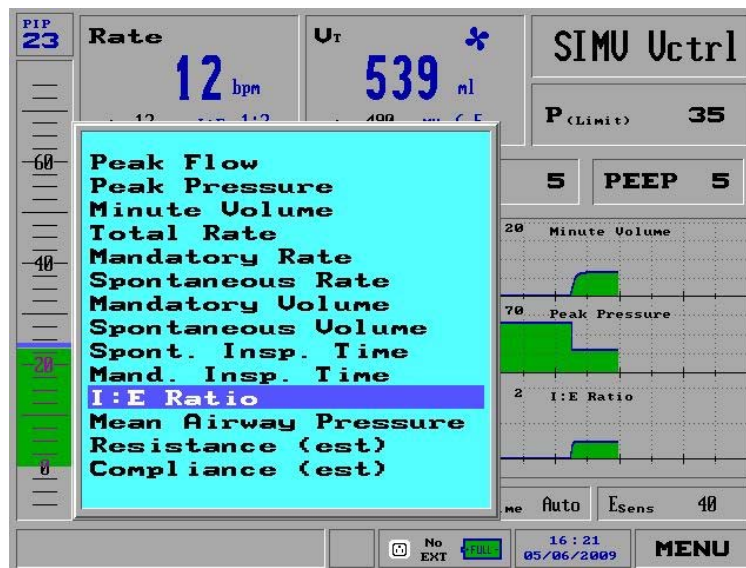

Figure 106: The Trends Selections Pop-Up. I:E Ratio Has Been Selected
3. Turn the Control Knob to Select, then press. A pop-up window appears with a choice of parameters and diagnostic variables (Figure 106)